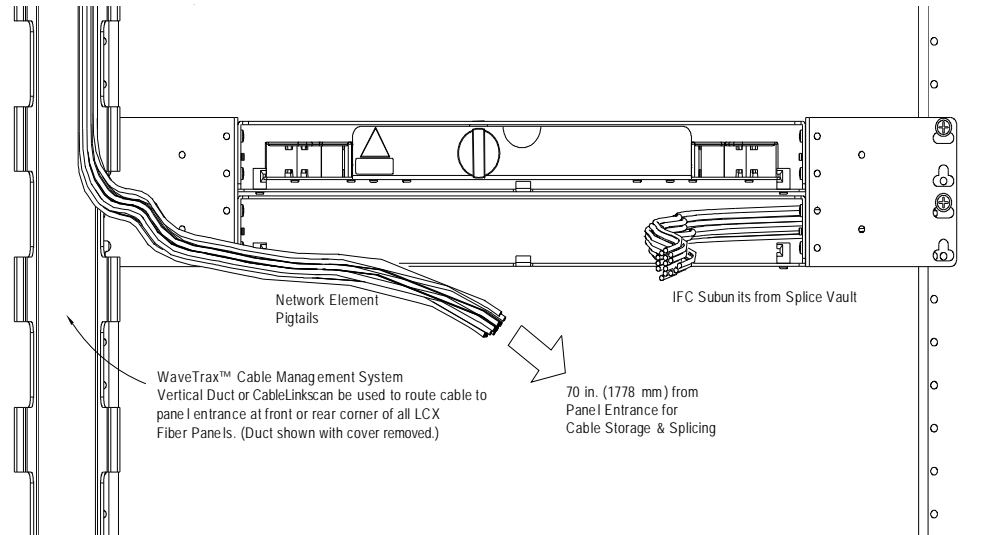

Figure 50 - Cable Routing
- If using discrete fiber cables at a front corner entrance, use a cable management system as illustrated in Figure 50.